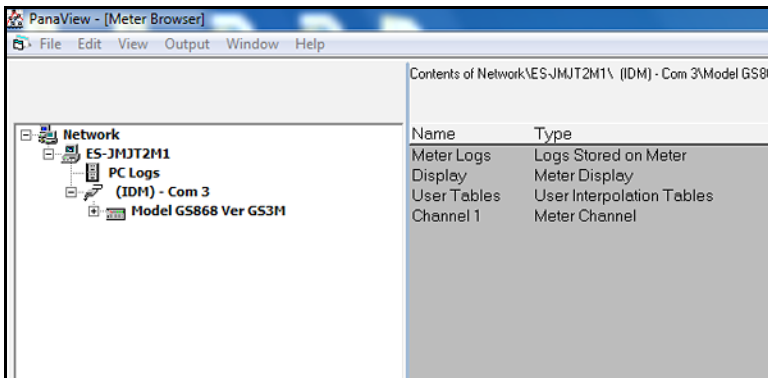

Figure 44: The Meter Branch
2. Fully expand the *network tree* and highlight the chosen meter (see *Figure 44* below).